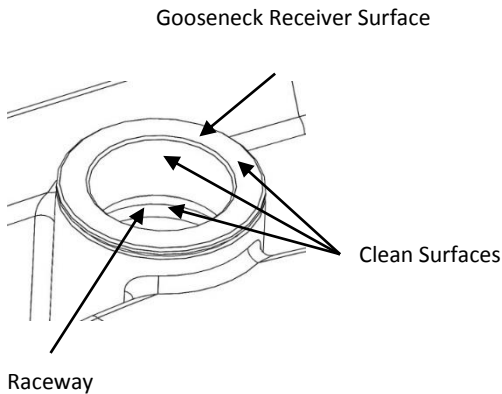

Figure 1: Receiver Hitch
- 2) Visually inspect all surfaces and raceway of the gooseneck receiver hitch (see Figure 1). Check for a) dirt, buildup, or debris, b) damage or deep scoring.